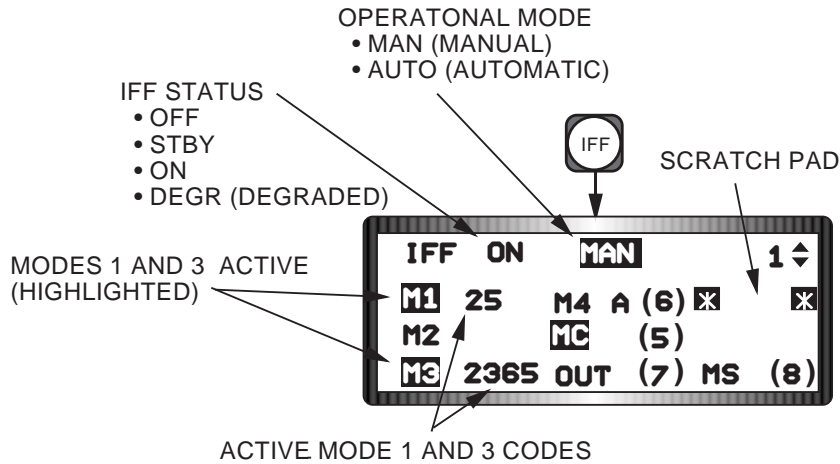

Figure 1-51 Manual IFF Transponder DED Page
**AIFF Transponder.** The transponder operates in one of two modes: Auto or Manual. Auto IFF provides automatic switching of modes or codes based on either time or present aircraft position. Manual allows the pilot to independently control the selection and activation of transponder modes and codes. IFF transponder pages are accessed by depressing the IFF override push button on the ICP. The first IFF page that will appear is the Manual (MAN) transponder DED page (Figure 1-51). The MAN mnemonic must be mode selected (highlighted) before modes and codes can be manually entered into the transponder. Mode selection is accomplished by placing the asterisks around the MAN mnemonic and depressing the “M-SEL” (O) button on the ICP.